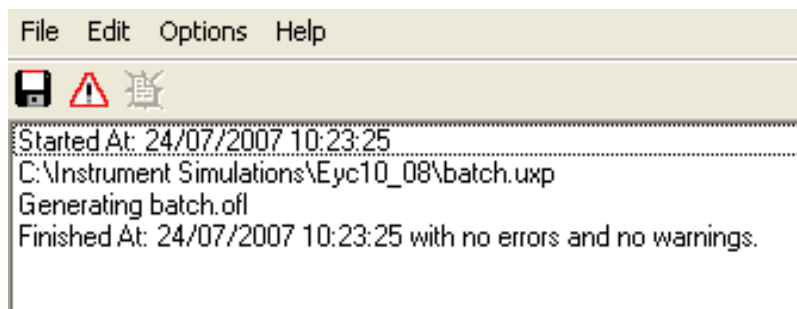

Figure 7-7 User screen editor build window — successful build
- 7 During the save process a **Build Window** appears, reporting on the progress of the save. Figure 7-7 shows a window for a successful build.